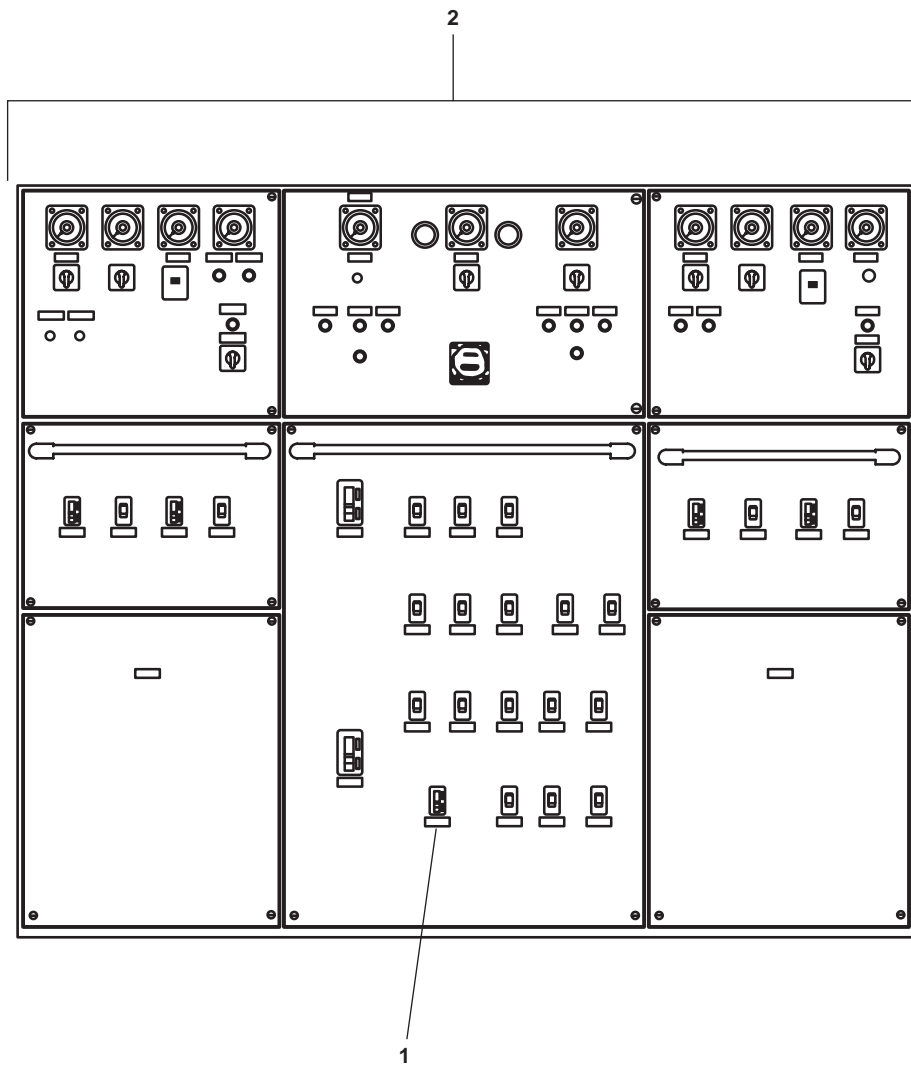

Figure 2. Main Switchboard
8. Set to ON the 1-25KVA XFMR 440/220-110V 3P 450V 60 AT circuit breaker (figure 2, item 1) on the main switchboard (figure 2, item 2).